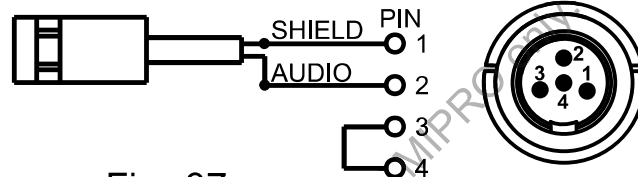

Fig. 37
1. 2-wire electret condenser microphone capsule connection. Fig. 37: